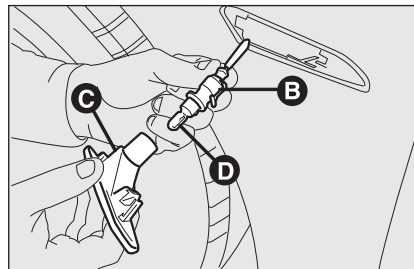

fig. 31
- turn the bulb holder **B-fig. 31** counterclockwise and remove it from lens **C**.